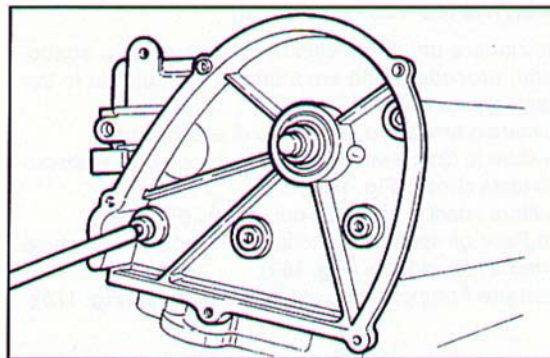

Fig. 171 ▲
- unscrew the screws (five Allen screws, one of which already removed, for the left head, three Allen screws and two hex head screws for the right head) securing the cylinder head front covers (Figs. 171 and 172);